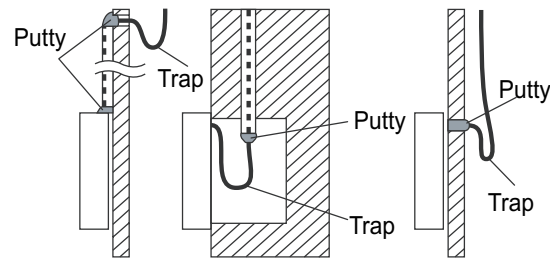

Fig. 25 — Seal the wires
1. This manual provides the wired controller installation method. Refer to the wiring diagram (see Fig. 25 — on page 17) for guidance on wiring the wired controller to the indoor unit.
Figure 25 provides an illustration of how to seal wires.